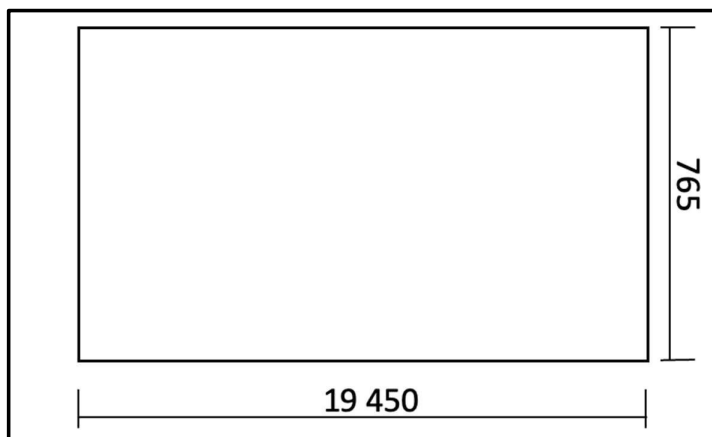

FIGURE 3.2
3.2 FIGURE 3.2 shows the front view of a 220 mm foundation wall.